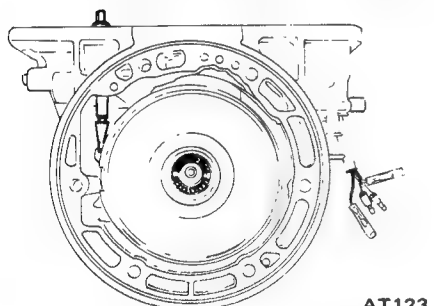

Fig. AT-57 Removing band strut
9. Remove band strut. This can be done by loosening piston stem further. See Figure AT-57.